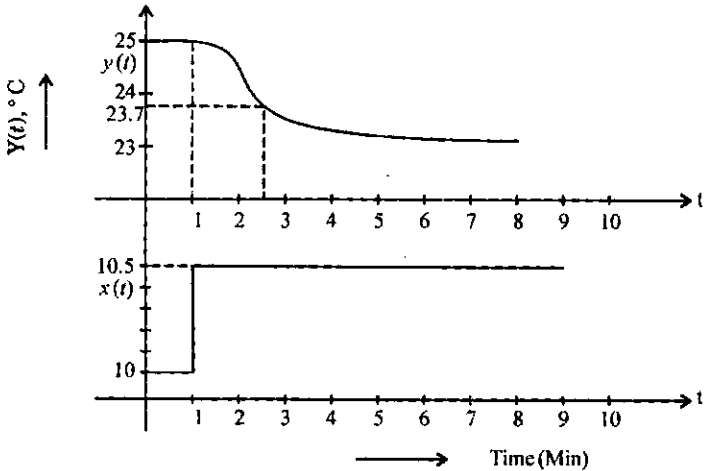

Fig. 2
- (e) The step response of a first order process is shown in Fig. 2.